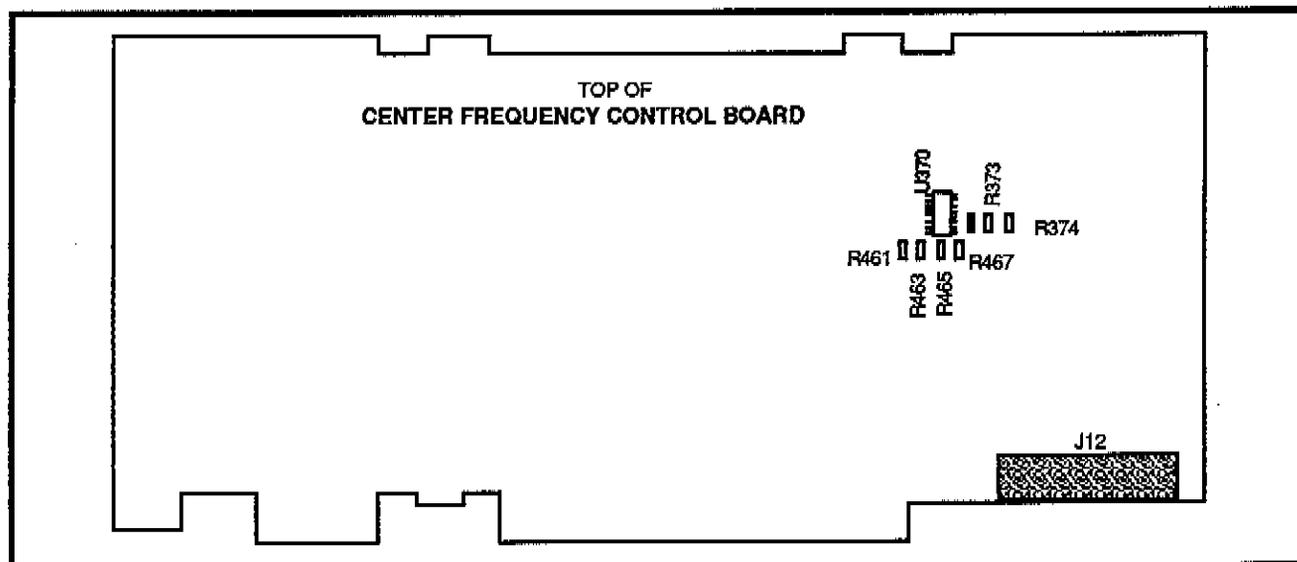

Figure 4-15. Reference frequency adjusting resistors.
- f. Check that the Spectrum Analyzer counter reads 100 MHz ± 100 Hz. If necessary, readjust the digital frequency number on the Center Frequency board using the 1 k Ω resistors in Table 4-5. Removing a combination of these resistors raises the reference frequency by the equivalent amount (sum) according to Table 4-4. See Figure 4-15 for the location of the 1 k Ω resistors.